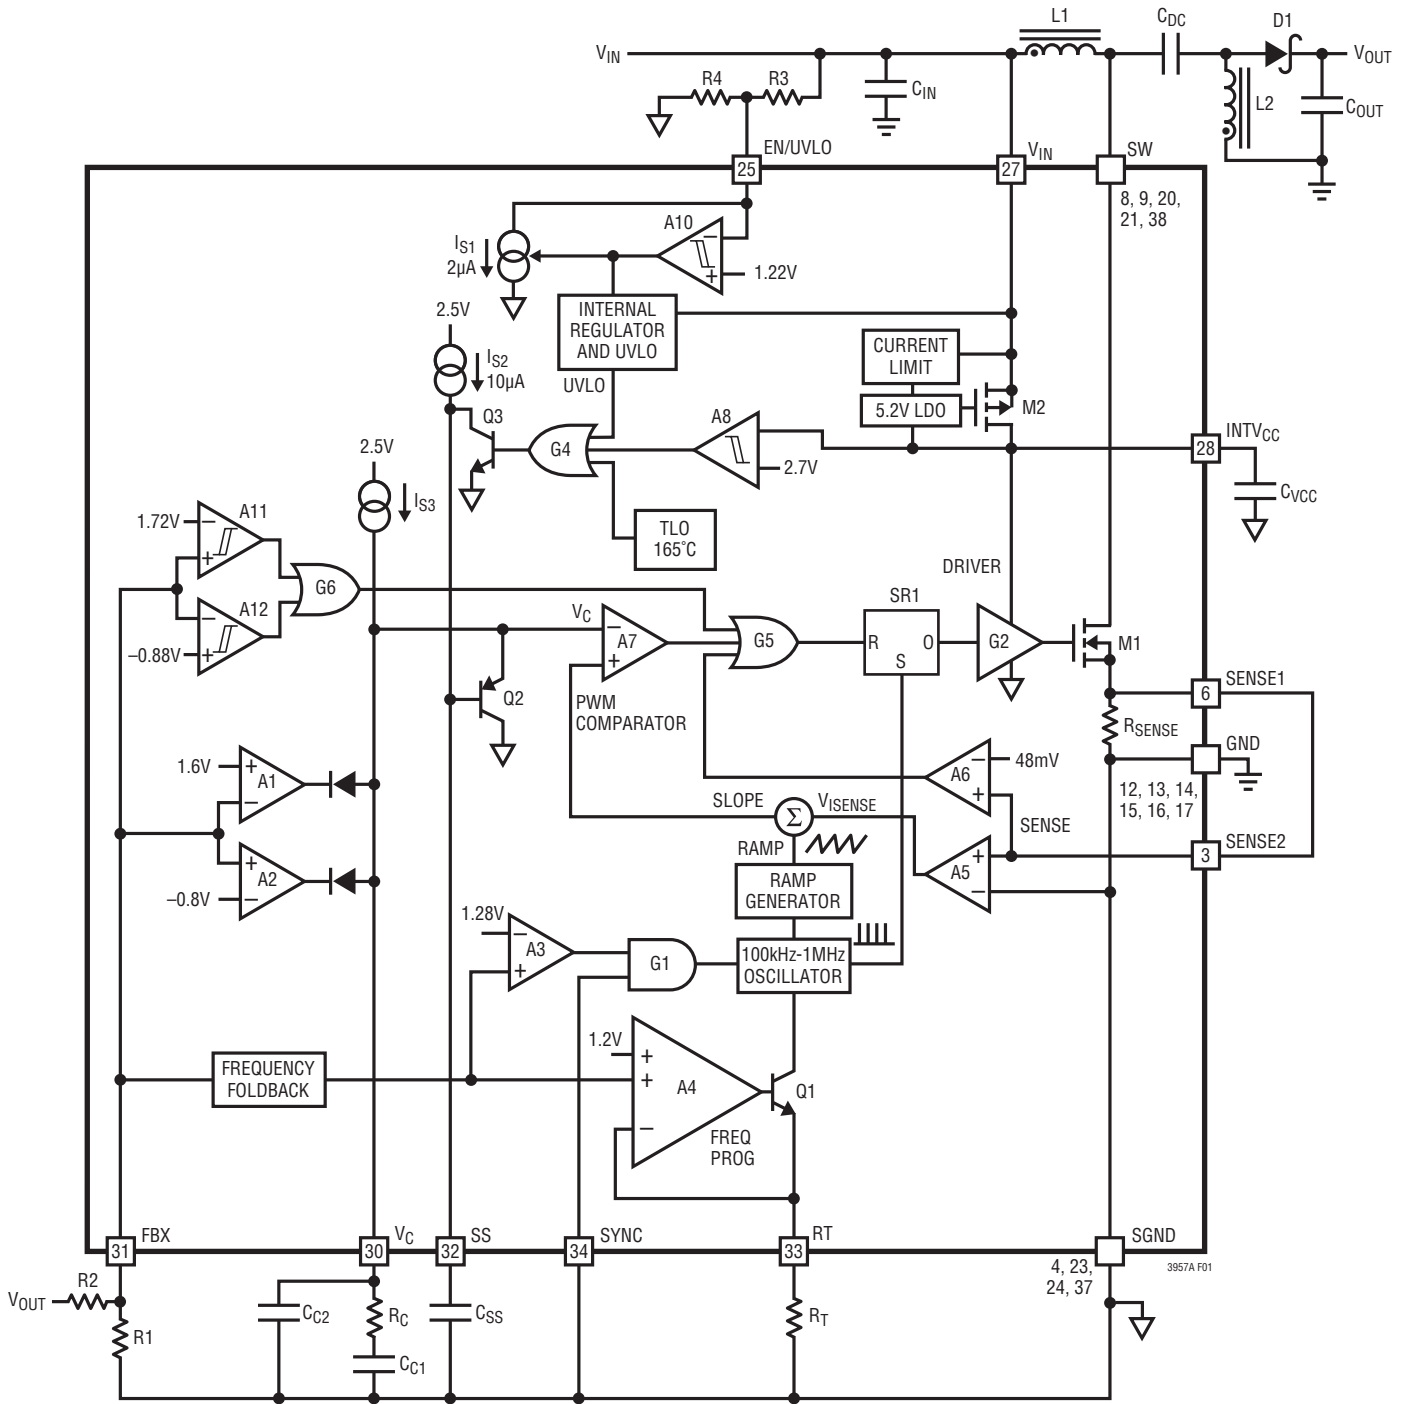

Figure 1. LT3957A Block Diagram Working as a SEPIC Converter
The LT3957A uses a fixed frequency, current mode control scheme to provide excellent line and load regulation. Operation can be best understood by referring to the Block Diagram in Figure 1.
The LT3957A is capable of generating either positive or negative output voltage with a single FBX pin. It can be configured as a boost, flyback or SEPIC converter to generate positive output voltage, or as an inverting converter to generate negative output voltage. When configured as a SEPIC converter, as shown in Figure 1, the FBX pin is pulled up to the internal bias voltage of 1.6V by a voltage divider (R1 and R2) connected from V_{OUT} to SGND. Comparator A2 becomes inactive and comparator A1 performs the inverting amplification from FBX to V_C . When the LT3957A is in an inverting configuration, the FBX pin is pulled down to $-0.8V$ by a voltage divider connected from V_{OUT} to SGND. Comparator A1 becomes inactive and comparator A2 performs the noninverting amplification from FBX to V_C .
The purpose of this current is to allow the user to program the rising hysteresis. The Block Diagram of the comparator and the external resistors is shown in Figure 1. The typical falling threshold voltage and rising threshold voltage can be calculated by the following equations:
An internal, low dropout (LDO) voltage regulator produces the 5.2V INTV_{CC} supply which powers the gate driver, as shown in Figure 1. The LT3957A contains an undervoltage lockout comparator A8 for the INTV_{CC} supply. The INTV_{CC} undervoltage (UV) threshold is 2.7V (typical), with 0.1V hysteresis, to ensure that the internal MOSFET has sufficient gate drive voltage before turning on. When INTV_{CC} is below the UV threshold, the internal power switch will be turned off and the soft-start operation will be triggered. The logic circuitry within the LT3957A is also powered from the internal INTV_{CC} supply.
If LT3957A operates at a low V_{IN} and high switching frequency, the voltage drop across the drain and the source of the LDO PMOS (M2 in Figure 1) could push INTV_{CC} to be below the UV threshold. To prevent this from happening, the INTV_{CC} pin can be shorted directly to the V_{IN} pin. V_{IN} must not exceed the INTV_{CC} Absolute Maximum Rating (8V). In this condition, the internal LDO will be turned off and the gate driver will be powered directly from V_{IN}. It is recommended that INTV_{CC} pin be shorted to the V_{IN} pin if V_{IN} is lower than 3.5V at 1MHz switching frequency, or V_{IN} is lower than 3.2V at 100kHz switching frequency. With the INTV_{CC} pin shorted to V_{IN}, however, a small current (around 16μA) will load the INTV_{CC} in shutdown mode.
The choice of operating frequency may be determined by on-chip power dissipation (a low switching frequency may be required to ensure IC junction temperature does not exceed 125°C), otherwise it is a trade-off between efficiency and component size. Low frequency operation improves efficiency by reducing gate drive current and MOSFET and diode switching losses. However, lower frequency operation requires a physically larger inductor. Switching frequency also has implications for loop compensation. The LT3957A uses a constant-frequency architecture that can be programmed over a 100kHz to 1000kHz range with a single external resistor from the RT pin to SGND, as shown in Figure 1. A table for selecting the value of R_T for a given operating frequency is shown in Table 1.
The output voltage V_{OUT} is set by a resistor divider, as shown in Figure 1. The positive and negative V_{OUT} are set by the following equations:
The LT3957A addresses this mechanism with the SS pin. As shown in Figure 1, the SS pin reduces the power MOSFET current by pulling down the V_C pin through Q2. In this way the SS allows the output capacitor to charge gradually toward its final value while limiting the start-up peak currents. The typical start-up waveforms are shown in the Typical Performance Characteristics section. The inductor current I_L slewing rate is limited by the soft-start function.
Loop compensation determines the stability and transient performance. The LT3957A uses current mode control to regulate the output which simplifies loop compensation. The LT3957A improves the no-load to heavy load transient response, compared to the LT3957. New internal circuits ensure that the transition from not switching to switching at high current can be made in a few cycles. The optimum values depend on the converter topology, the component values and the operating conditions (including the input voltage, load current, etc.). To compensate the feedback loop of the LT3957A, a series resistor-capacitor network is usually connected from the V_C pin to SGND. Figure 1 shows the typical V_C compensation network. For most applications, the capacitor should be in the range of 470pF to 22nF, and the resistor should be in the range of 5k to 50k. A small capacitor is often connected in parallel with the RC compensation network to attenuate the V_C voltage ripple induced from the output voltage ripple through the internal error amplifier. The parallel capacitor usually ranges in value from 10pF to 100pF. A practical approach to design the compensation network is to start with one of the circuits in this data sheet that is similar to your application, and tune the compensation network to optimize the performance. Stability should then be checked across all operating conditions, including load current, input voltage and temperature. Application Note 76 is a good reference on loop compensation.